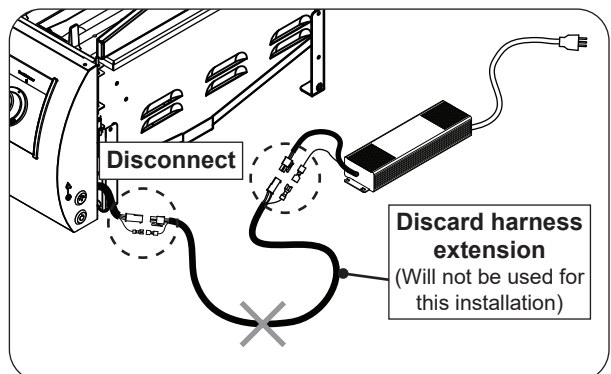

Fig. 10-3 Detach power supply (if applicable)
- If the power supply is pre-connected to the appliance, disconnect the power supply. Similarly, if a wire harness extension exists linking between the appliance and power supply, detach the extension and set it aside as it won't be used for this installation. See Fig. 10-3.